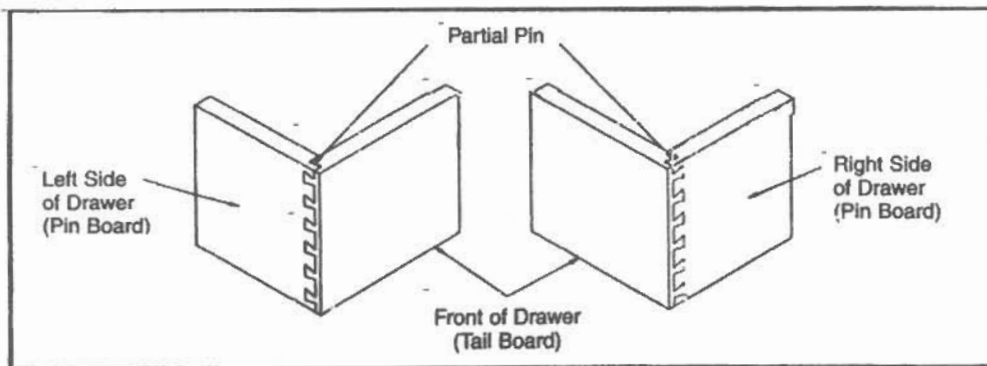

Fig. 13
10. If for appearance reasons the partial pins are desired to be in the same location of both sides of the drawer as shown in Fig. 13, then rout the right end of the drawer front and right side of the drawer on the right end of the template. Adjust the right stop bars the same as those on the left (mirror image).